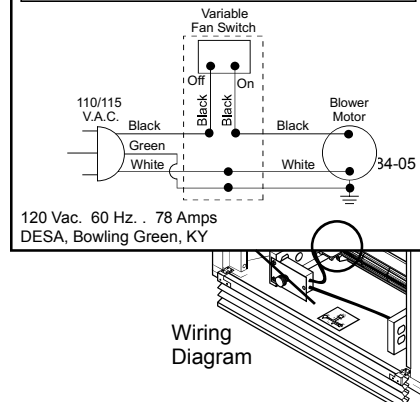

Figure 23 - Location of Wiring Diagram Decal 3" from Blower
12. Peel off the backing paper and stick the supplied wiring diagram decal on the firebox bottom approximately 3" to the right of the blower speed control (Figure 23, page 10).